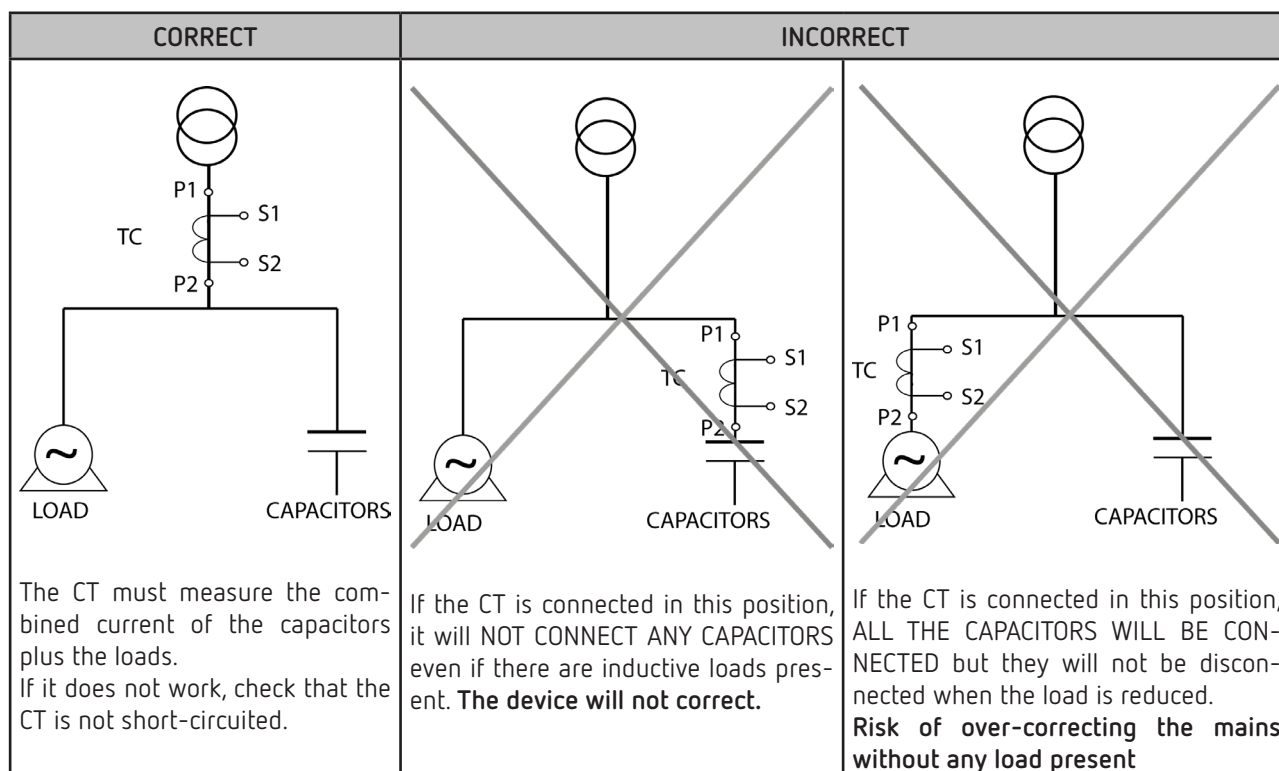

Figure 1: Location of current transformer
The current transformer (CT) must be installed at a connection point through which flows the entire load current that is to be corrected, plus the current of the capacitors themselves (see **Figure 1**)